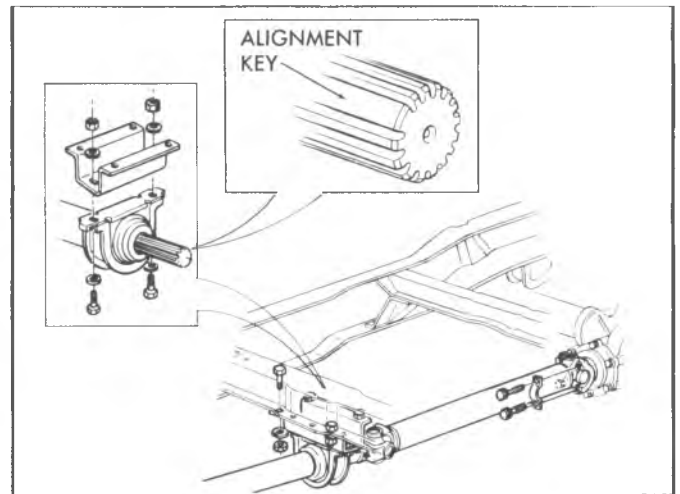

Fig. 7—Alignment Key
**All models with 32 splines** use an alignment key, as shown in figure 7, to obtain proper phasing. The shafts can mate only in the correct position.